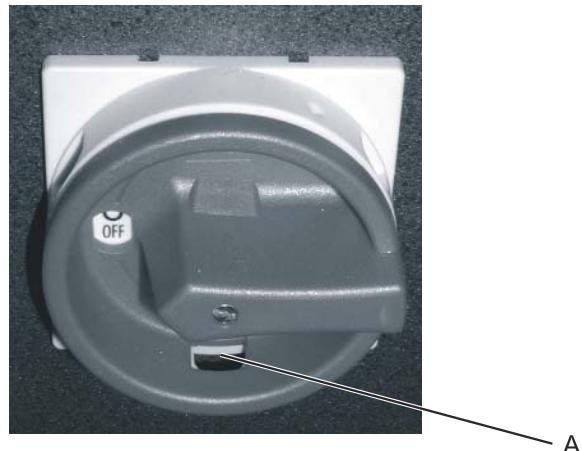

Figure 1: Main switch lockout
3. Ensure that the main switch is set to "OFF" (see Figure 1) so that the laser device is isolated from the potentially hazardous energy sources.
4. Lockout the main switch by inserting the assigned lockout device into the opening in the bottom of the main switch (see Figure 1, A). The lockout device can only be inserted when the main switch is in the "OFF" position.